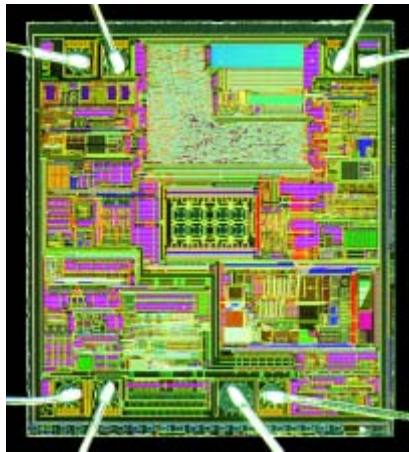
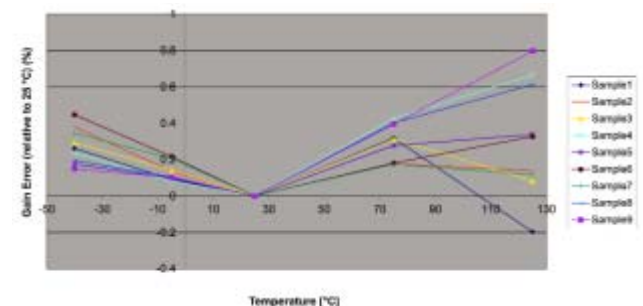

Figure 4: New ASIC die, a complete O/L Hall effect current transducer on a single chip
Figure 3a: New ASIC gain drift
- Measured parameters from our standard validation set up which checks 9 circuits at a time are shown in Figures 3a and 3b. A die photograph is shown in Figure 4: the 8 Hall cells can be seen at the centre of the die.